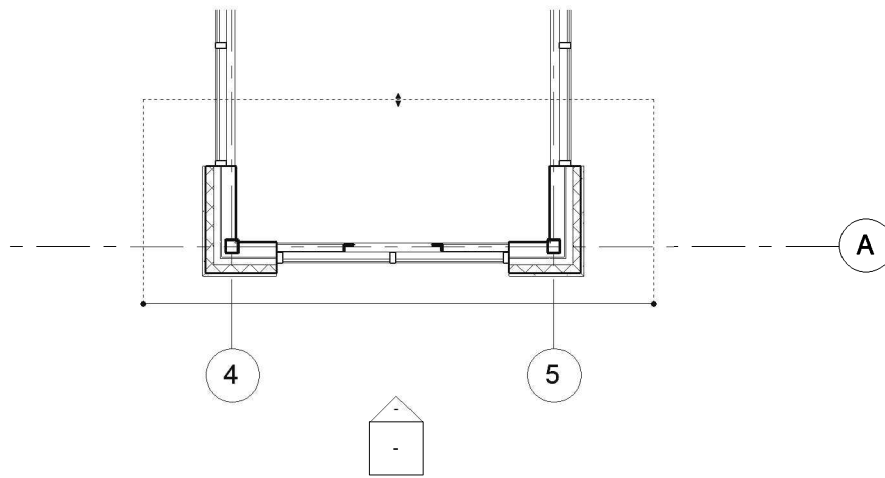

FIGURE 10-1.9 Main Entry wall enlarged elevation
16. In the **Level 1 Architectural Plan** view, adjust the *Elevation Tag* to show only the main entry wall (Figure 10-1.9).
Once you modify the view constraints in plan view (Figure 10-1.9) and you switch to the new elevation view, you can click on the *Crop Region* and use the grips to make the view wider.